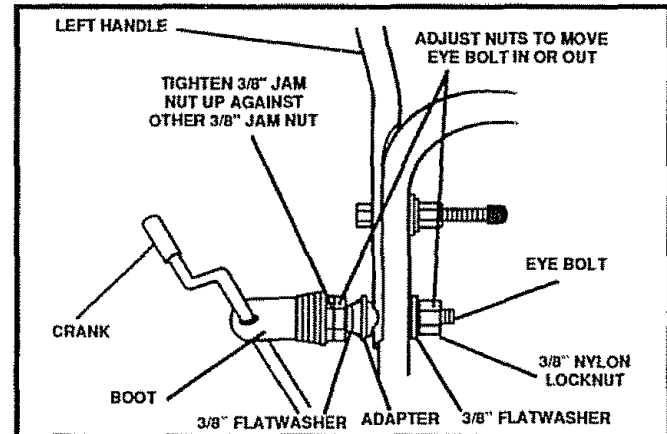

FIG. 4B
- Tighten the outside 3/8" jam nut up against the other 3/8" jam nut (See Fig. 4B).